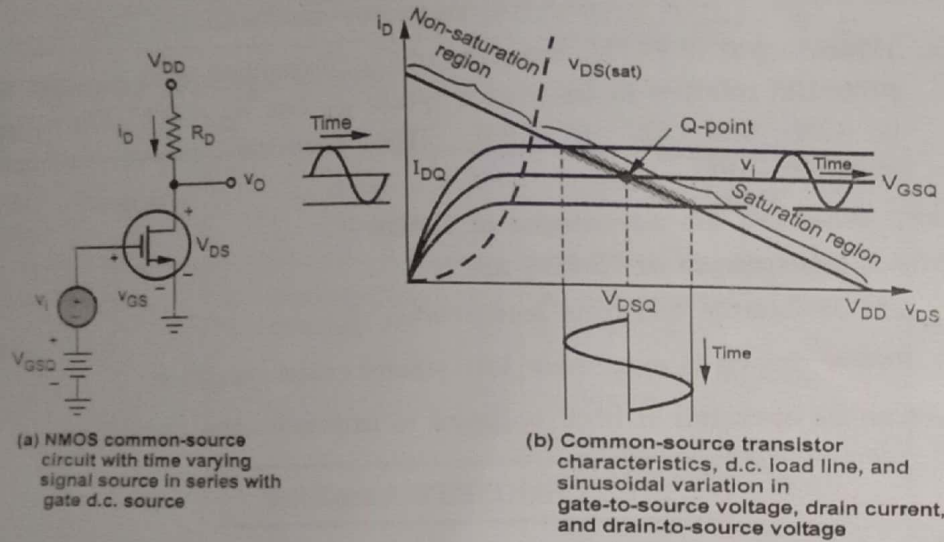

Fig. Q.63.1
Ans. : • Fig. Q.63.1 shows n-channel, enhancement mode MOSFET common-source circuit with a time-varying (a.c.) voltage source in series with the d.c. source. We assume the time-varying input signal is sinusoidal.
- Fig. Q.63.1 shows the MOSFET characteristics, d.c. load line, and Q-point, where the d.c. load line and Q-point are functions of V_{GS} , V_{DD} , R_D and the MOSFET parameters.
- The Fig. Q.63.1 (b) shows sinusoidal variations in the gate-to-source voltage, drain current and drain-to-source voltage, as a result of the sinusoidal source v_i .